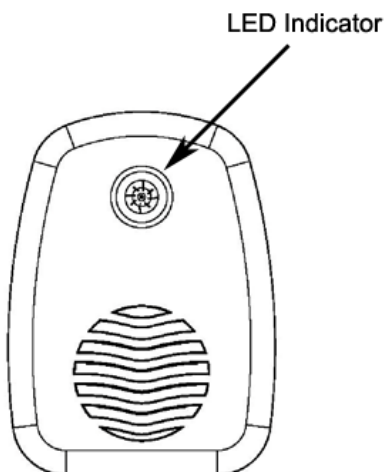

Figure 4
4. After inserting the batteries, the remote sensor LED indicator will light for 4 seconds, and then flash once per 48 seconds thereafter, as shown in Figure 4 (note that the LED is underneath the plastic).